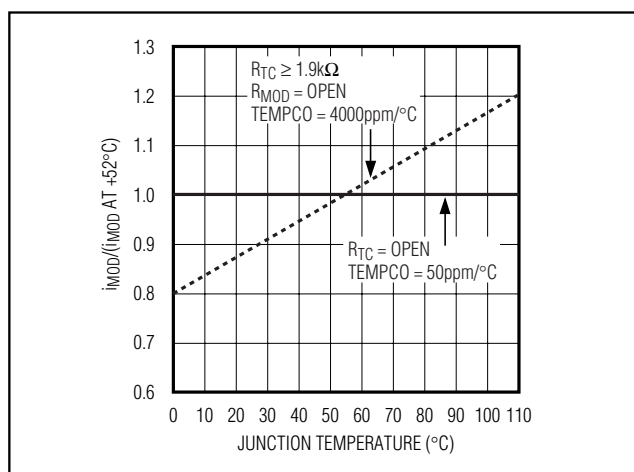

Figure 6. Modulation Current vs. Temperature for Maximum and Minimum Temperature Coefficient
The amplitude of the modulation current is set with resistors at the MODSET and temperature coefficient (TC) pins. The resistor at MODSET ( $R_{MOD}$ ) programs the temperature-stable portion of the modulation current, and the resistor at TC ( $R_{TC}$ ) programs the temperature-increasing portion of the modulation current. Figure 6 shows modulation current as a function of temperature for two extremes:  $R_{TC}$  is open (the modulation current has zero temperature coefficient), and  $R_{MOD}$  is open (the modulation temperature coefficient is  $4000\text{ppm}/^\circ\text{C}$ ). Intermediate temperature coefficient values of the modulation current can be obtained as described in the *Design Procedure* section. Table 2 is the  $R_{TC}$  and  $R_{MOD}$  selection table.